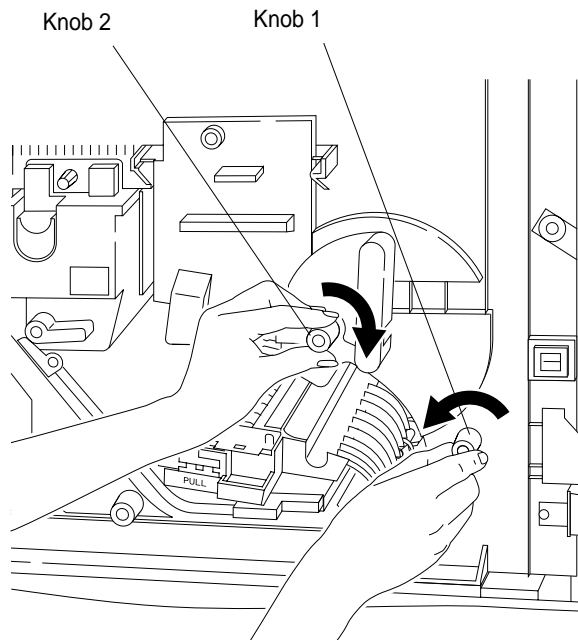

Figure 3-41 Turning Knobs 1 and 2
8. Turn knob 1 counterclockwise and knob 2 clockwise to move paper into position for removal, as shown in Figure 3-41.